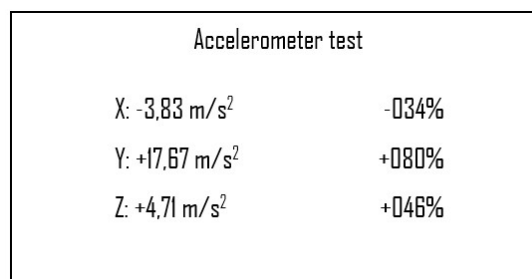

Fig. 21 – Test akcelerometru
- On screen appears the coordinates, like on Fig. 21, Operator should check if the coordinates corresponds to the actual location of device.